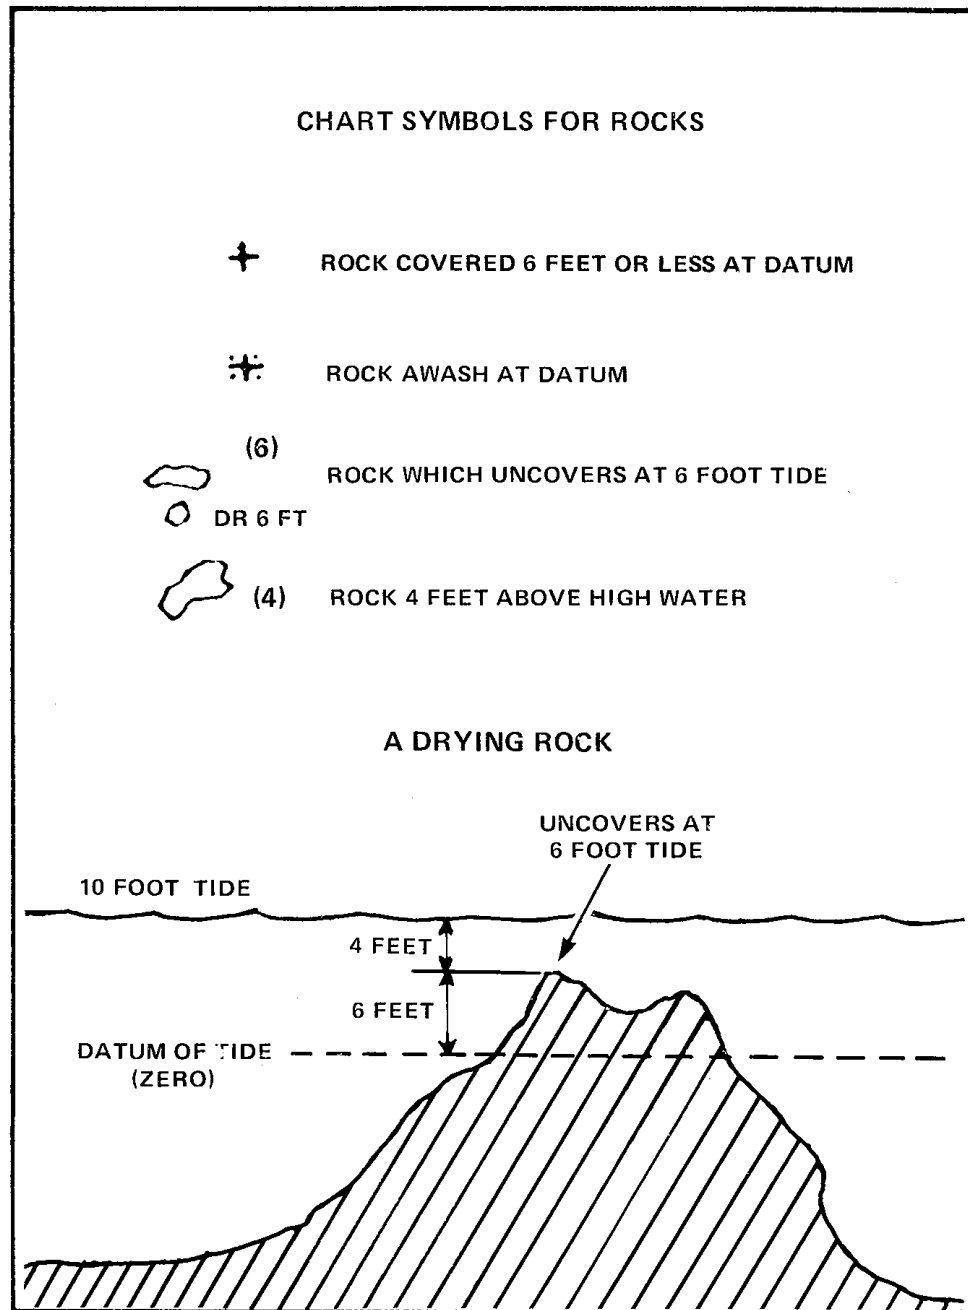

Figure 7-22 Chart Symbols for Rocks
67. **Rocks** — Rocks are marked by crosses as shown in Figure 7-22. Here **datum** refers to the datum of soundings, which appears in the title block of the chart but can be taken roughly as **low water**, the level reached when the tide is out. The expression **dries**, abbreviated to **dr**, may be confusing. It means that the rock just breaks the surface of the water when the tide is at the height indicated. Thus a rock marked "dr 6 ft" will appear at the surface when the tide falls to 6 feet above datum of soundings. When